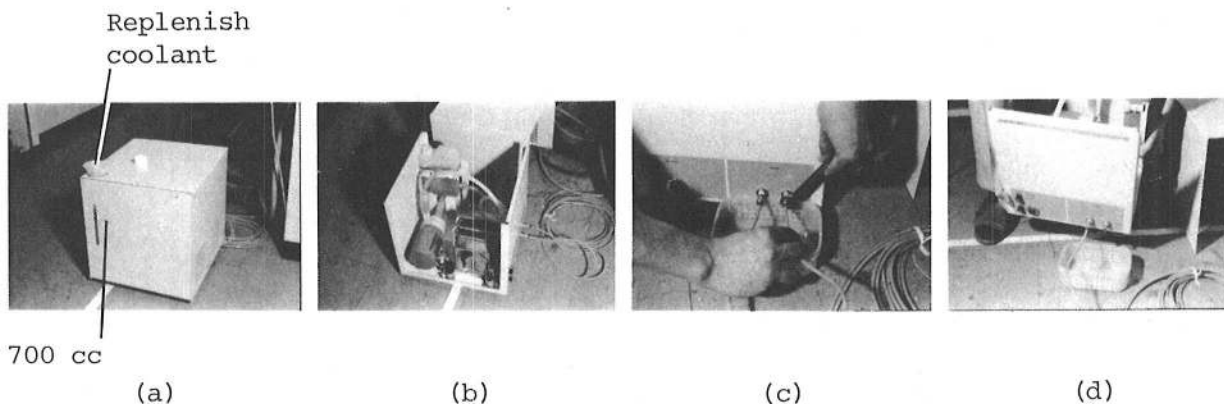

Fig. 4-4 Maintenance of Cooling Unit
The coolant must be contained at least up to the level marked "700 cc" on the cooling unit. If the coolant level is lower than this, replenish the coolant adequately. (See Fig. 4-4 (a).)
- 3) Remove the cap from the coolant tank. After placing a vessel (having a capacity of 700 cc or more) below the coolant pipe joint of the cooling unit, disconnect the pipe in reference to Fig. 4-4 (b) and (c).
- 4) Leave the coolant flowing out of the tank. When the coolant no longer flows out, lift and incline the cooling unit in order to discharge the remaining coolant which still occupies 30 to 40 % of the full tank capacity. (See Fig. 4-4 (d).)